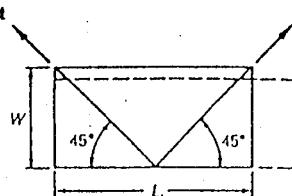

Fig. P2.37
Fig. P2.37 and P2.38
2.37. A thin rectangular plate is deformed uniformly into another rectangle as shown in Fig. P2.37. It elongates 10 per cent of its original length and contracts 3 per cent of its original width. Compute approximately the shear strain γ_{tt} .